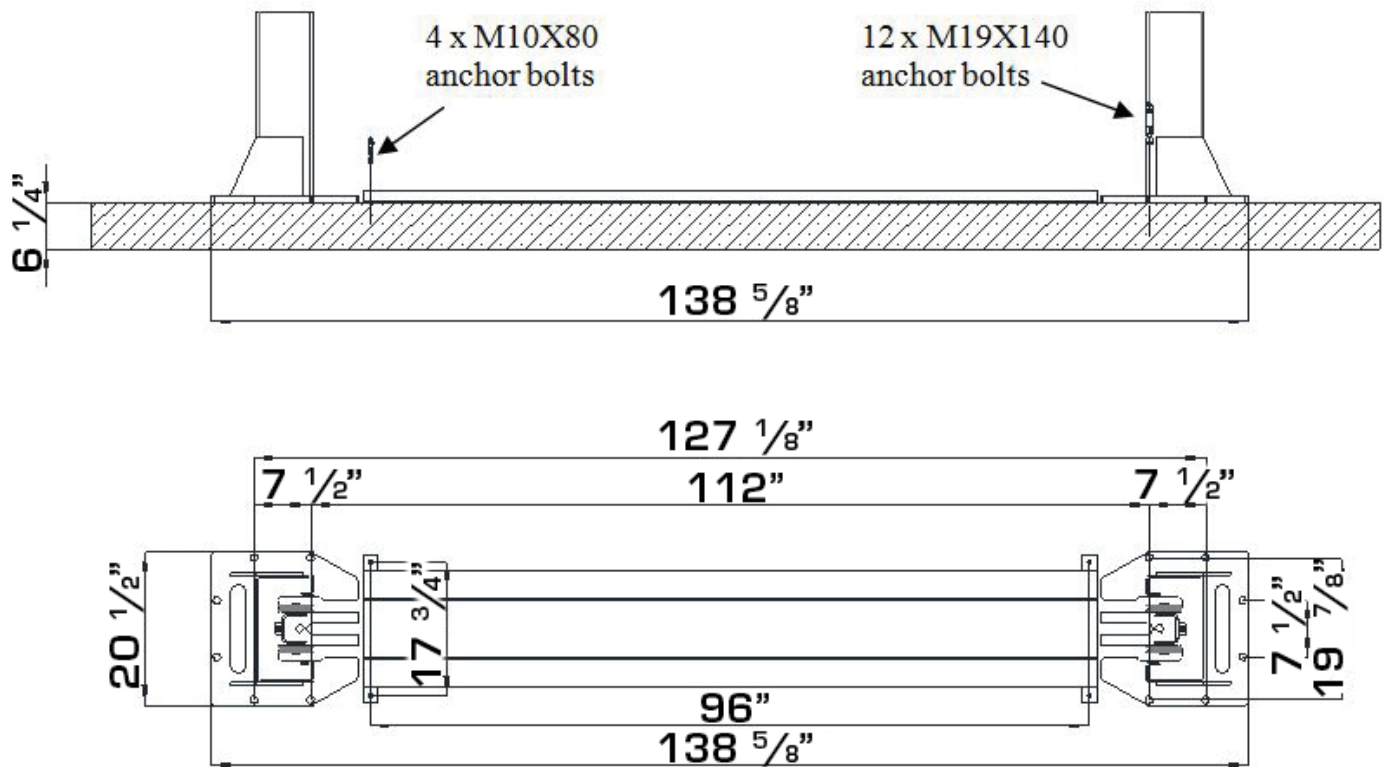

Figure 8 – Floor Plan
- Now locate the lift according to the floor plan the figure 8, use a carpenters chalk line to layout a grid for the column locations